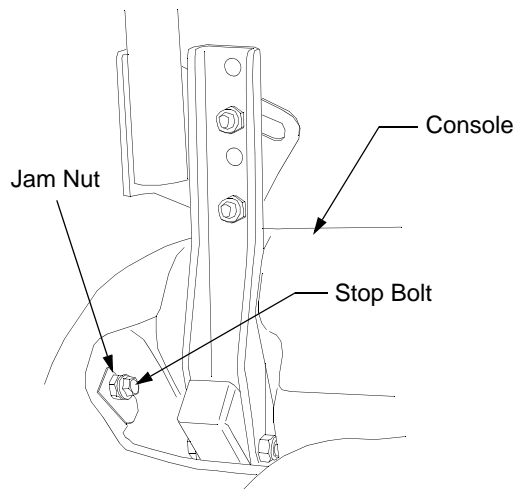

Figure 24
- Locate the applicable stop bolt on the left or right console. See Figure 24.